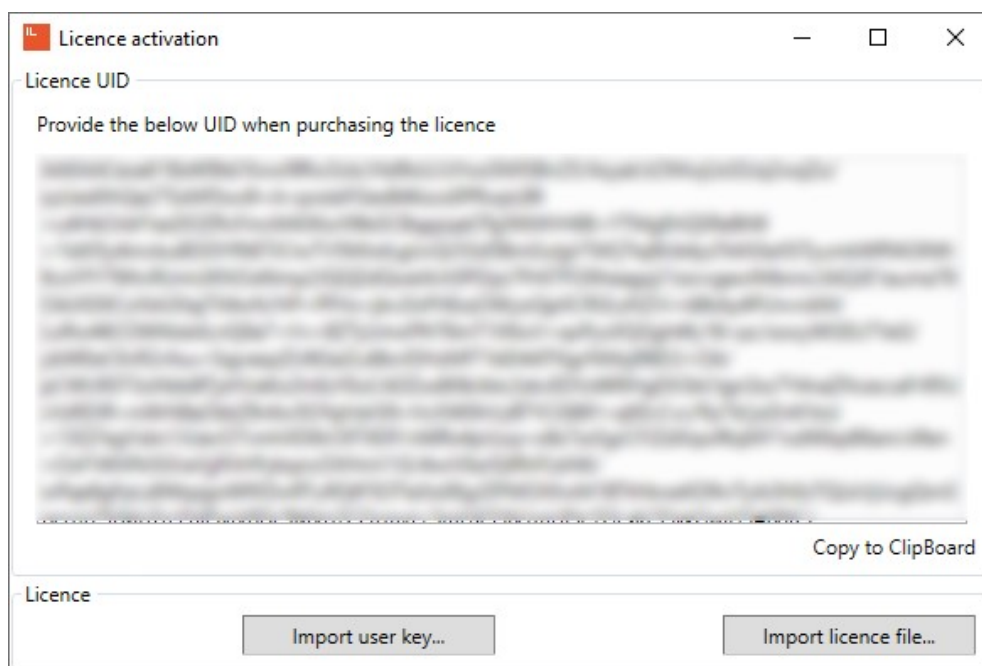

Figure 1: Activation window
3. Copy your license UID to the clipboard (**Figure 1:** Activation window).
6. To activate the program import both files (**Figure 1:** Activation window)